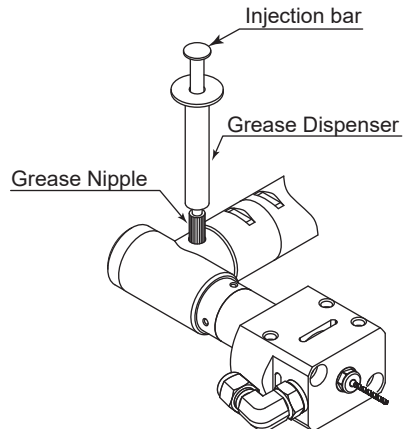

Fig. 28
- (3) Attach the provided Grease Nipple on the screw hole removed the thread in the step (2), and insert the tip of the Grease Dispenser (Injector) into the Grease Nipple. (Fig. 28)
- (4) Holding the Grease Dispenser, start the cooling air supply.
- (5) Inject grease about 0.5mℓ.